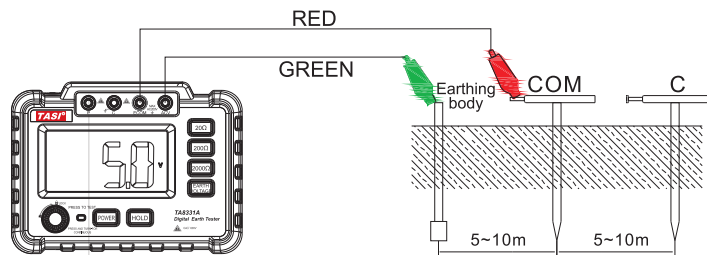

Figure4
2) Ground voltage measurement (Figure 4)